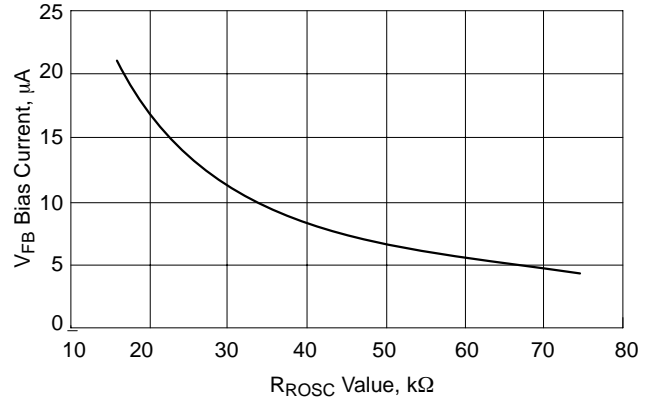

Figure 4. VFB Bias Current vs. RROSC Value
- The  $V_{\text{FB}}$  Bias Current changes with the value of  $R_{\text{ROSC}}$  per Figure 4.
To set the no-load positioning, a resistor ( $R_9$ ) is placed between the output voltage and  $V_{FB}$  pin. The  $V_{FB}$  bias current will develop a voltage across the resistor to decrease the output voltage. The  $V_{FB}$  bias current is dependent on the value of  $R_{ROSC}$ , as shown in Figure 4.